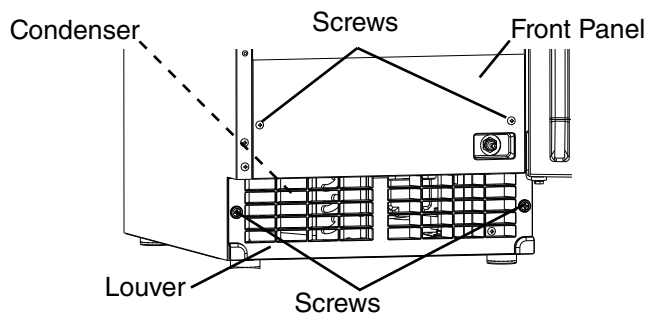

Fig. 45
- 2) Remove the 2 screws securing the front panel, then remove the panel. See Fig. 45.